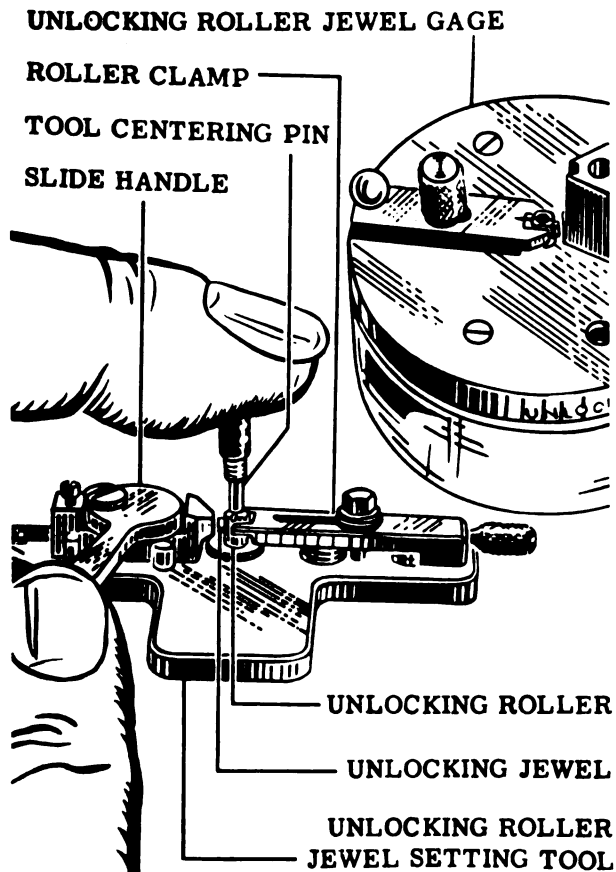

Figure 65
8. Place roller in unlocking roller jewel setting tool (Tool No. 27) with the wider slot of the roller toward the operator. Tool No. 27 is shown in the operator's fingers in Fig. 65. Insert the tool centering pin in the roller. While holding down the roller with the centering pin, push the clamp on the right side of the tool up to the center. Tighten the clamp nut with the clamp nut wrench supplied with the setting tool.
9. Place the setting tool and roller on the heater unit and heat until the shellac softens. With the finger, push the handle of the jewel adjusting slide forward gently as far as it will go to set the jewel in its proper position. See Fig. 65.
11. Remove the roller from the setting tool and place it on the unlocking roller jewel gage (Tool No. 26). This gage is shown in the background in Fig. 65. Place the gage centering pin through the roller. Push the